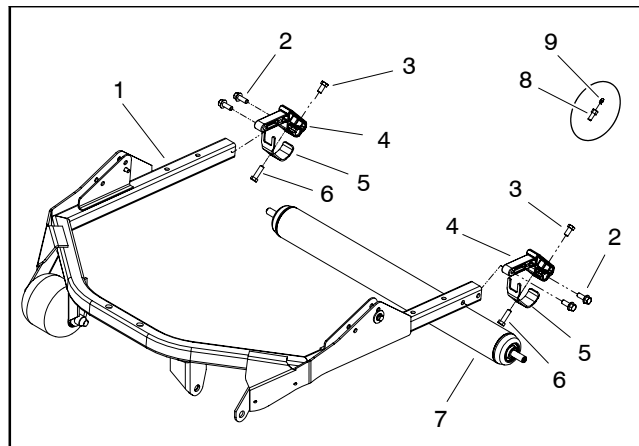

Figure 13
### Removal (Fig. 13)
### Installation (Fig. 13)
**IMPORTANT:** If roller design includes grease fittings in roller fasteners (items 8 and 9 in Fig. 13), make sure the grease groove in each roller mount aligns with the grease hole in each end of the roller shaft. To help align the groove and hole, there is also an alignment mark on one end of the roller shaft.